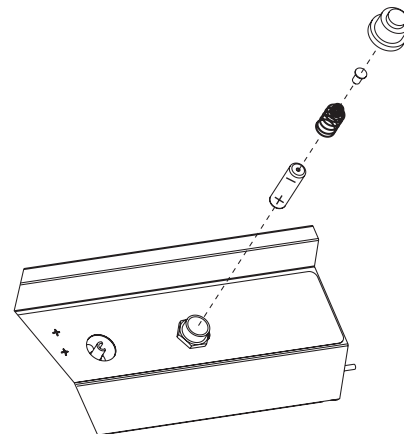

Figure 31
- Re-attach the ignitor to the control panel, then tighten nut and insert AA battery, positive side down, and replace ignitor button. **See Figure 31.**
10. R3B models only: Place the briquet rack over the blue flame burner only. **See Figure 31.**